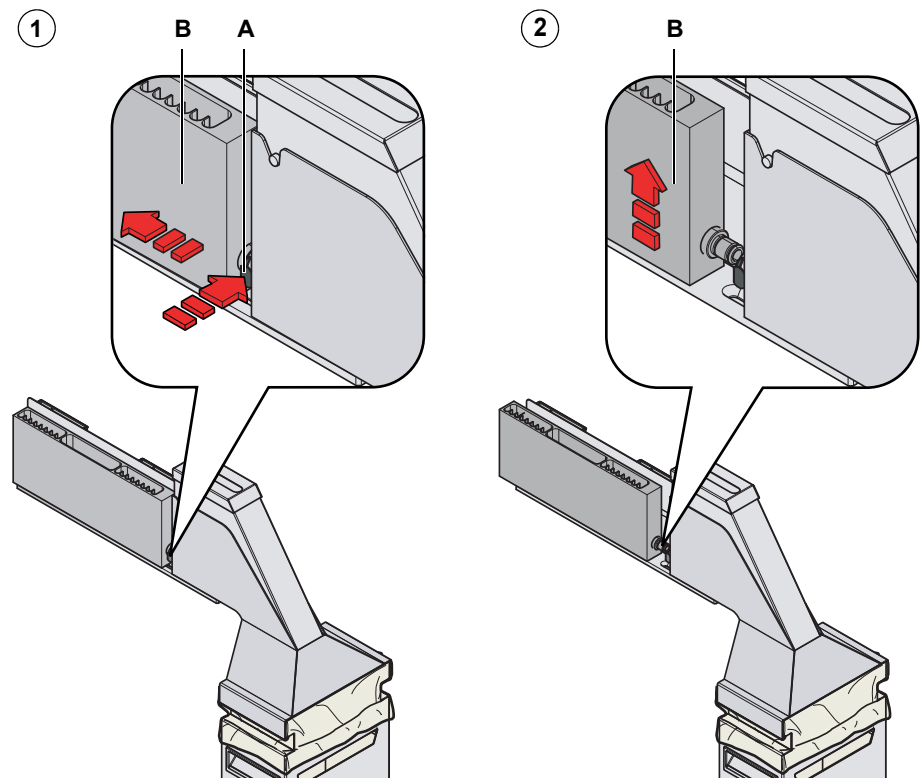

Fig. 7-14 Removing the wash station from the worktable
- 1 Press the quick release fastener (A) and pull the wash station (B) to the mechanical stop until it disengages (see arrow) Fig. 7-14, Fig. 7-25.
- 2 Completely remove the wash station (B) (see arrow) Fig. 7-14, Fig. 7-25.
- 5 Reinstall the wash station (B) to the designated position while keeping the quick release fastener (A) pressed Fig. 7-14, Fig. 7-25.